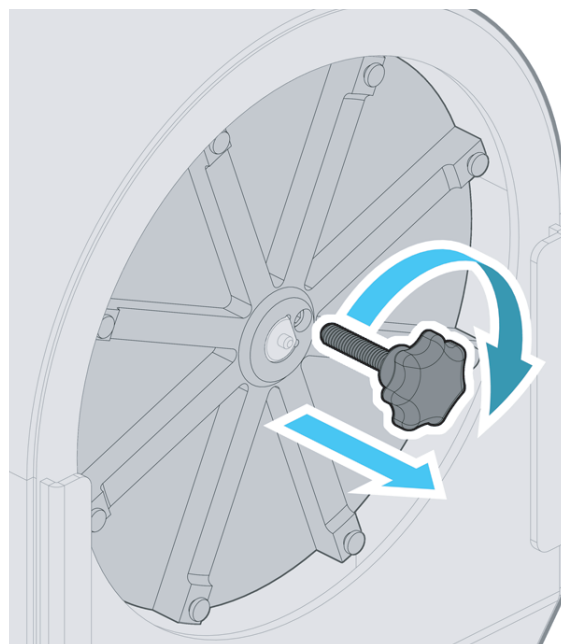

Figure 17b: Use the Blade Removal Knob to help remove the Blade Holder.
- B. Thread (clockwise) the supplied Blade Removal Knob into the Blade Holder. Pull the Removal Knob to assist in the removal of the Blade Holder. See **Figure 17b**.